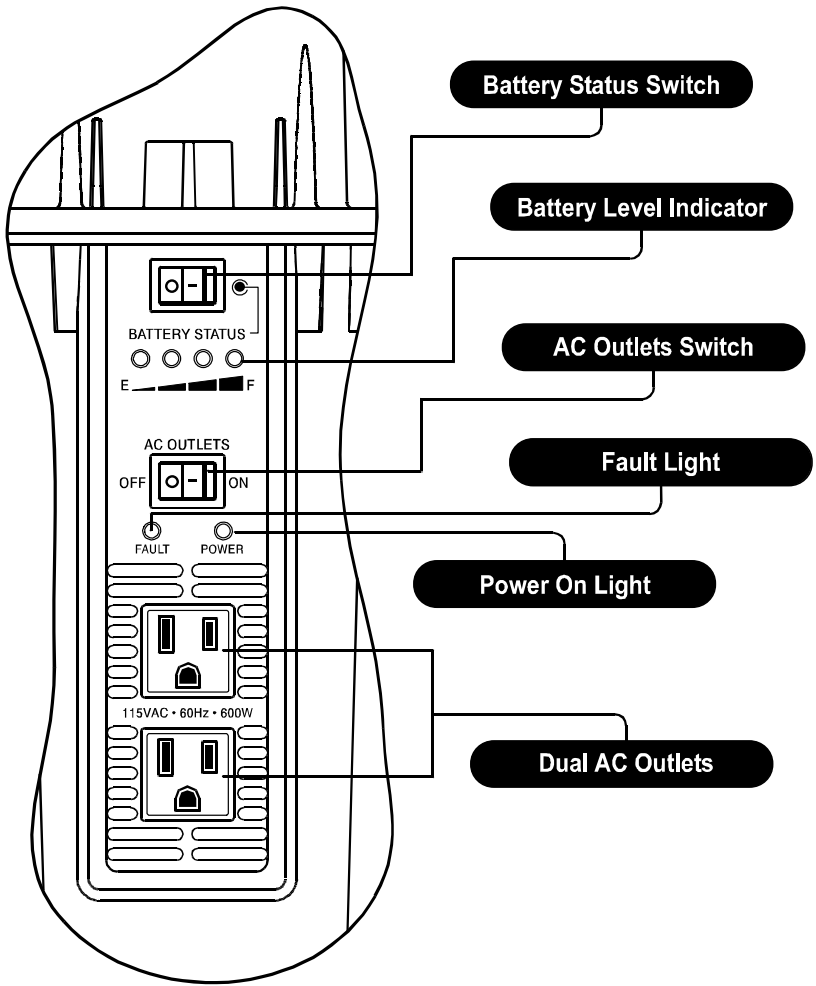

Figure 2 - View of AC Power Panel
As shown in Figure 2 below, the AC Power Panel contains the Battery Status Switch, Battery Level Indicator, AC Outlets Switch, AC Power Light, Fault Light, and dual AC Outlets.
1. Turn on the AC Outlets Switch located on the AC Power Panel. The green POWER light illuminates to confirm AC power is now on and available at the two AC Outlets. See Figure 2 in Section 4.1.